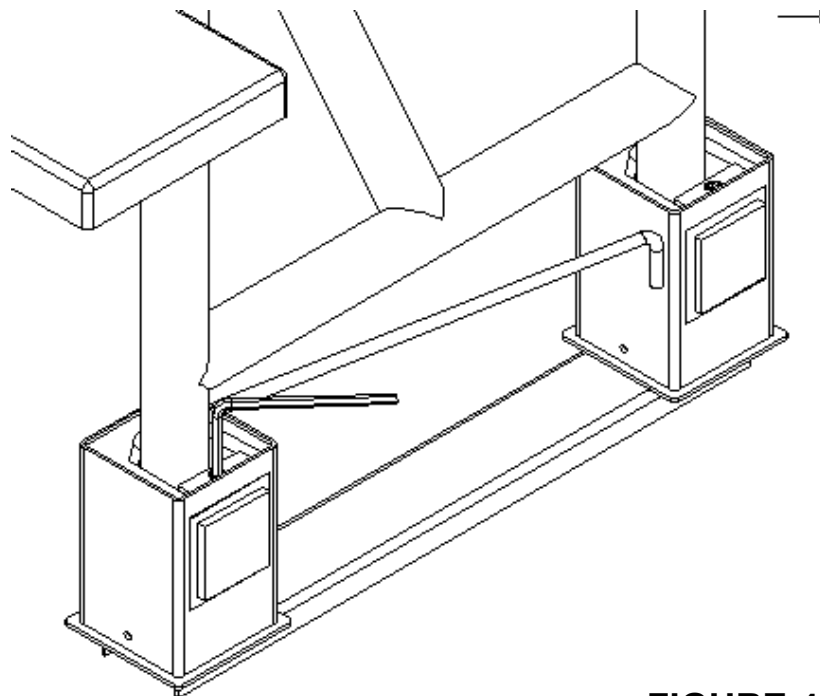

FIGURE 4
1. Loosen bolt using a ¼" ALLEN wrench, turning wrench in a counter-clockwise direction as seen from looking down. See **FIGURE 4**. There is enough clearance to accommodate the use of most ratcheting wrenches.